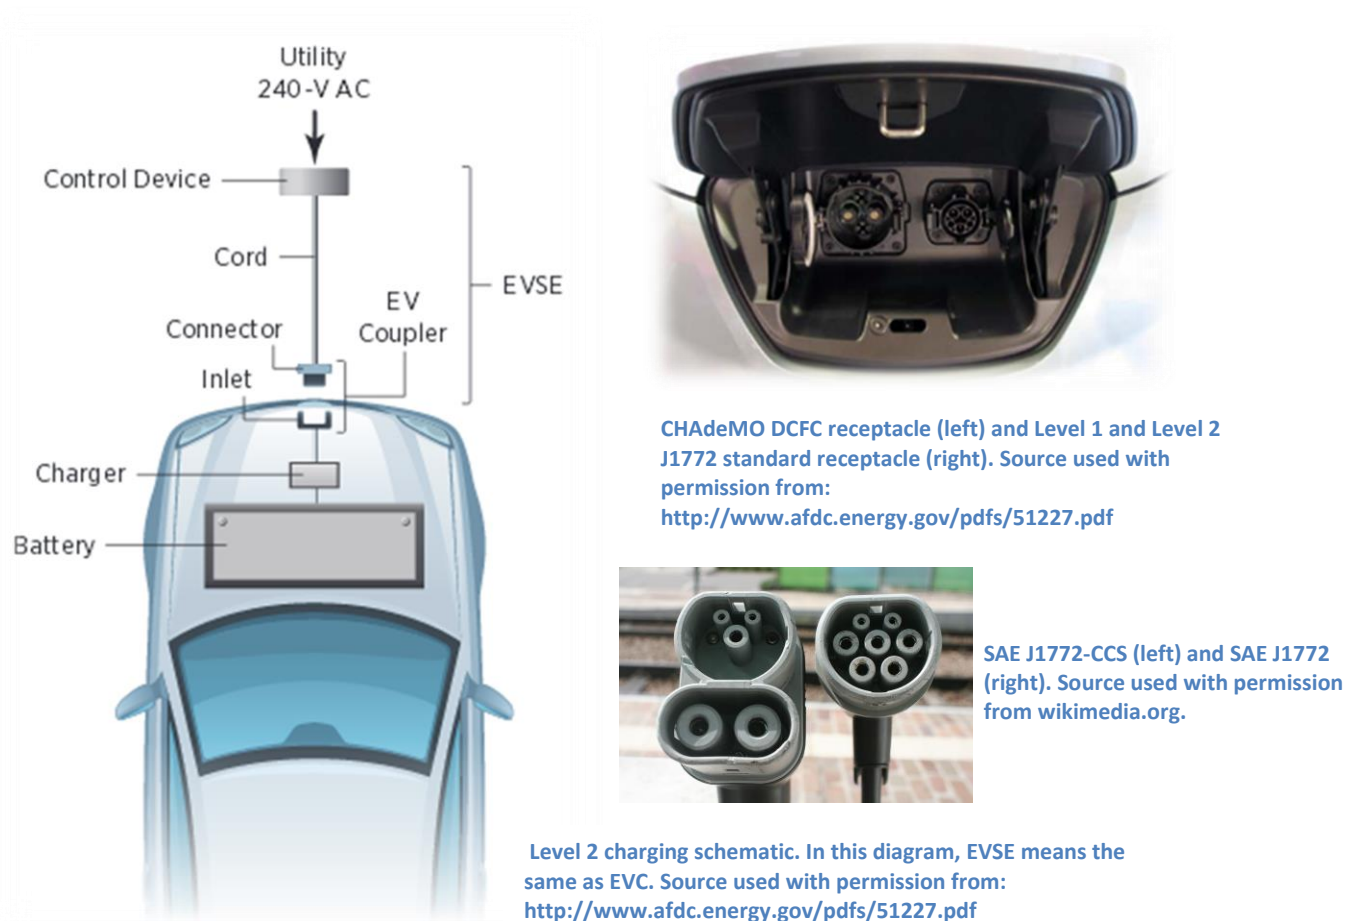

Figure 2: EVC schematic and connector inlet image
Chargers are also classified by the kind of connector on the charging cord. There are currently two competing standards sold in the United States: SAE J1772, developed by SAE International, and CHAdeMO, developed by an organization of the same name. The connector inlets can be seen in Figure 2. The SAE J1772 standard covers both AC (J1772) and DC (J1772-CCS)2 charging, while the CHAdeMO connector is only used for DCFC charging. Tesla also has a proprietary connector for their charging
It is important to note that not every car will be able to take advantage of an EVC's full power output. For example, many vehicles are not compatible with DC fast charging and therefore do not have DCFC charging ports. In addition, for all charging levels, the limiting component can either be the vehicle on-board equipment or the EVC. While all external charging devices are commonly called "chargers" (including in this guide), Level 2 chargers merely provide an electric current – the actual "charger" that manages energy flow into the battery is located inside the vehicle, as shown in Figure 2. Different vehicles allow different Level 2 charging rates depending on their internal charger. Older models and PHEVs may only be capable of about 3 kW of charging capacity, while many other PEVs can charge at approximately 7 kW and still others can charge at rates as high as 19 kW.
- *Number Charging Ports/Type*: The number of EVs that can charge simultaneously and the connector type (e.g. J1772, CHAdeMO, see Figure 2 for examples)